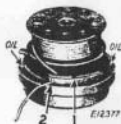
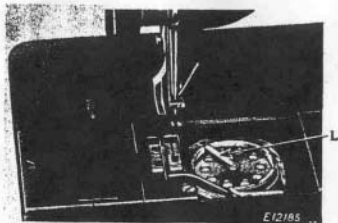

Fig. 9. Direction of Thread on Bobbin
Fig. 10. Bobbin Case Threaded
in Fig.9, and place it on the center stud of the bobbin case, then push down the latch (L, Fig.10). Draw the thread into the slot (1, Fig.9) and under the tension spring (2) as shown in Figs.9 and 10, leaving a loose end of thread about two inches long above the slide. When closing the slide plate, leave just enough space for the thread to pass through.